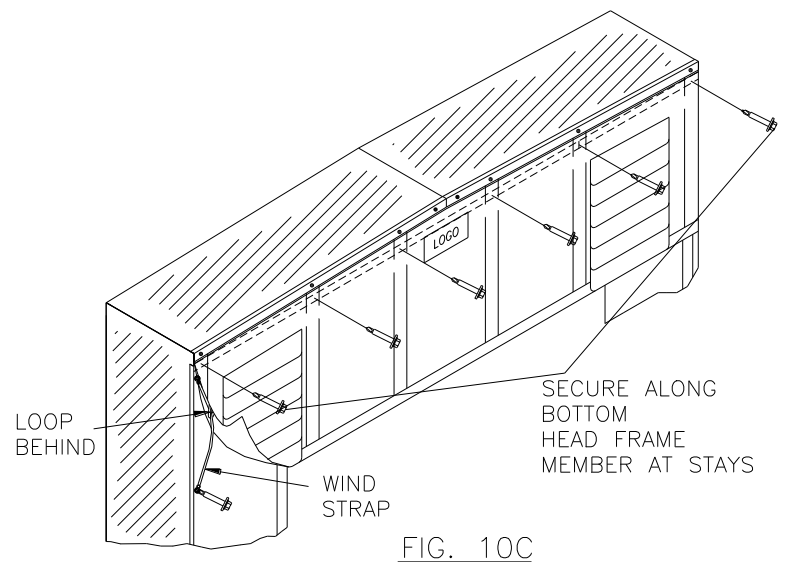

FIG. 10C
- c. **Attach Header Curtain** to bottom Head Frame member (Figure 10c).
- b. **Thread** Wind Strap through Header Curtain (Figure 10c).